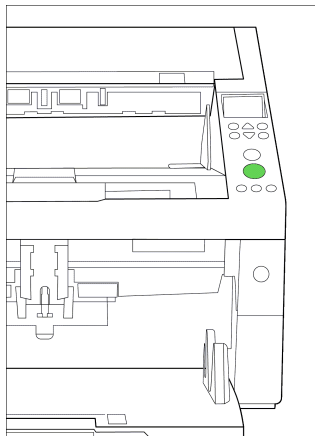

Figure 4-3. Scan button
2. Press the scanner's Scan button to scan the target card (Figure 4-3).